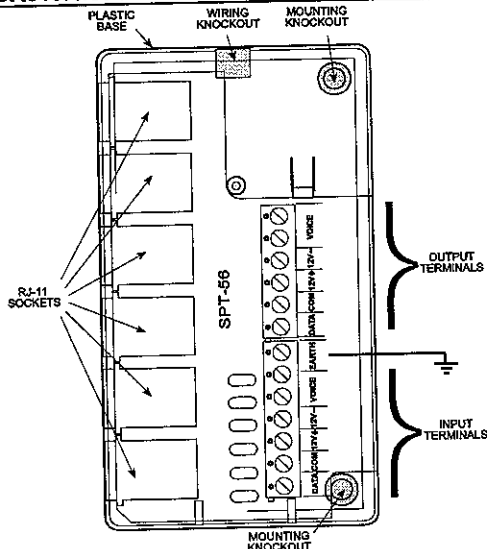

Figure 3-2. SPT-56, Inside View
The SPT-56 internal voltage-sensitive varistors have very fast response with no power consumption during standby. Permanent connection of SPT-56 units at various points along the bus suppress spikes that exceed $39\text{ V} \pm 10\%$. Eight bus ports are provided on the SPT-56 printed circuit board (figure 3-2):
- Mount the base (with the printed circuit board) in the selected location, by using the mounting knockouts (Figure 3-2).